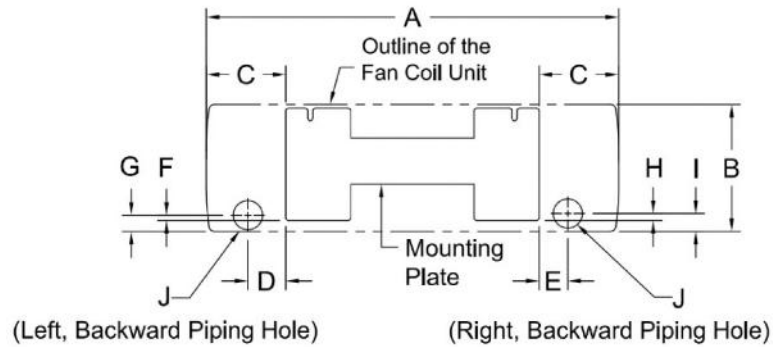

FIGURE 2
6. Drill a piping hole 2-3/4" diameter hole either from the right or to the left of fan coil side (Refer to Figure 2, 3, & 4 on applicable Models) and make sure that the hole is slightly slanted downward.